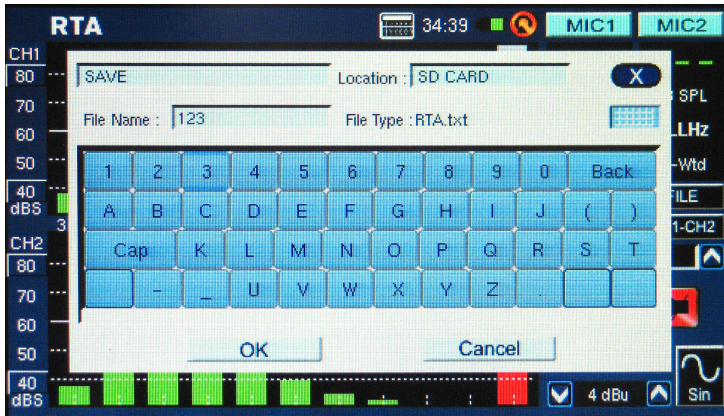

figure 26
- You can save your readings by entering the FILE menu and saving to either the PAA6 or inserted memory card (figure 26).
- Save your settings entering the FILE menu and saving to either the PAA6 or inserted memory card (as shown in figure 26).